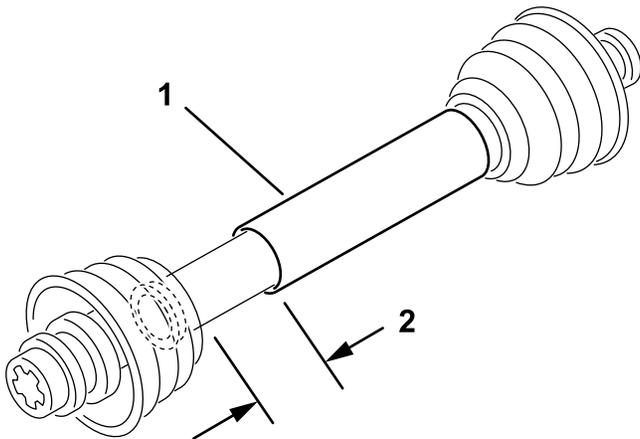

Figure 2
3. When attached to the machine, the 2 halves of the PTO shaft must have at least 37 mm (1-1/2 inches) of additional clearance to collapse at its shortest length (Figure 2).